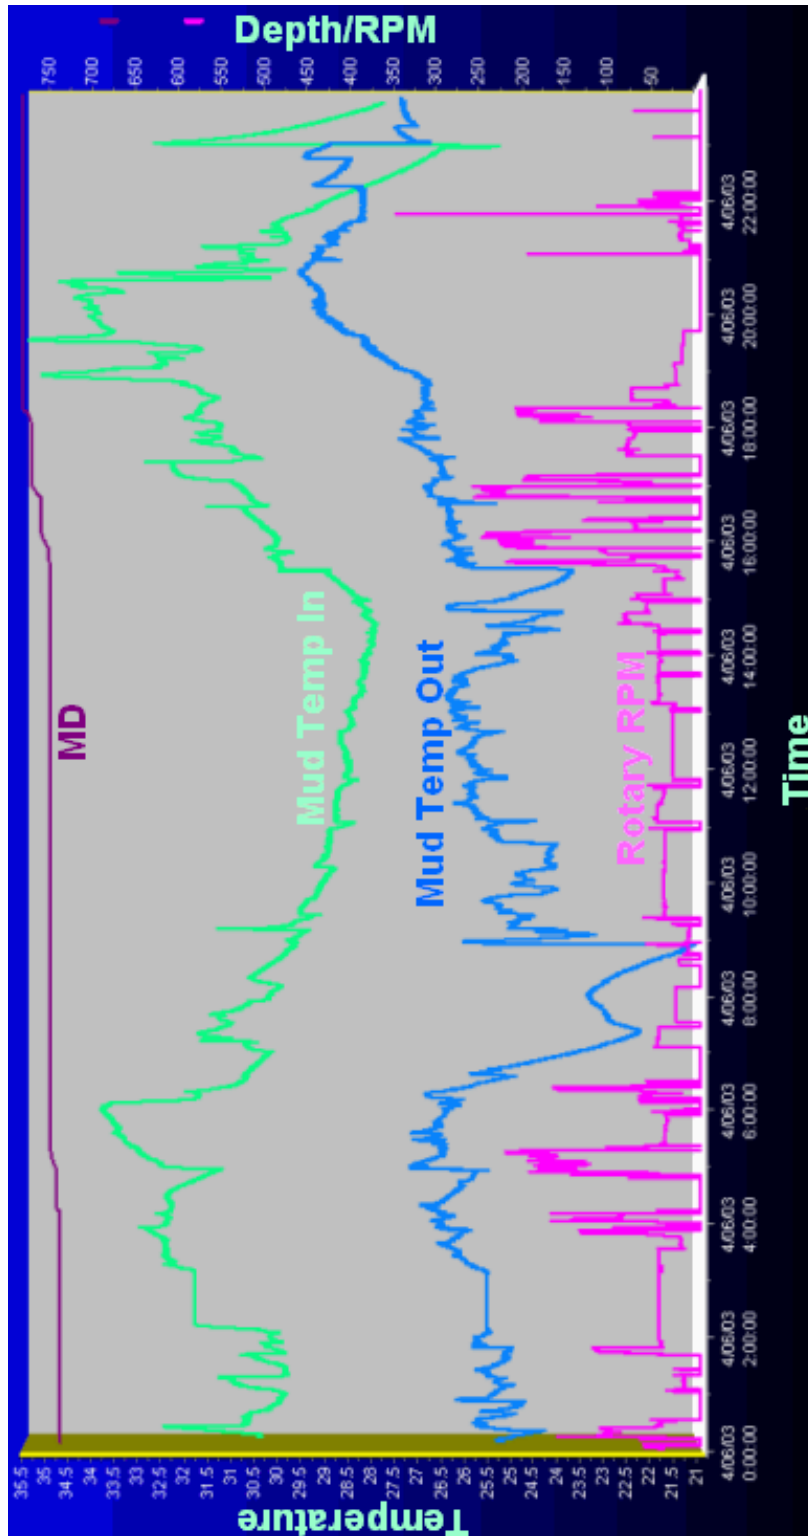

Figure 16. DrillGraph® Data Monitor – Mud Temperature Data (April 6, 2003)
**Figure 16** shows activity on April 6, 2003 when drilling solids and mud foaming/freezing problems brought continuous coring to a halt. Well depth progressed from about 700 to 750 ft (213 to 229 m) with mud temperatures fluctuating erratically, from 21° to 35.5°F, with the mud freezing point about 23°F. The root cause of the problems was traced to a slug of solids that migrated into the mud chiller and plugged one of the three separate cooling systems. Constant foaming problems caused by a transfer pump also contributed to freezing of the mud lines.